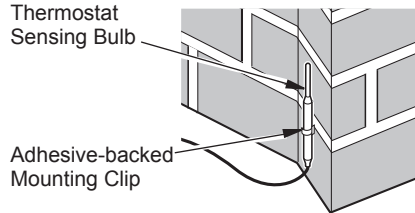
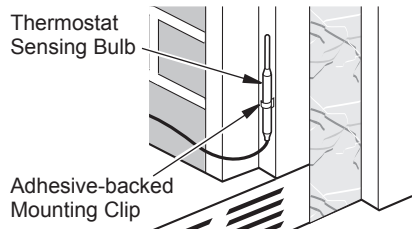
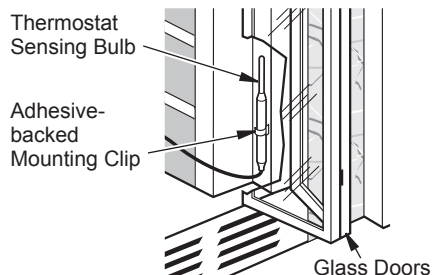

Figure 37 - Locating Thermostat Sensing Bulb on Masonry Fireplace
Figure 38 - Locating Thermostat Sensing Bulb on Factory-built Metal Fireplace
Figure 39 - Installing Thermostat Sensing Bulb behind Glass Doors
3. The thermostat sensing bulb may be located to the lower right front side of fireplace. Determine location of sensing bulb, but do not mount sensing bulb until step 4. If you have a masonry fireplace, see Figure 37 for location. If you have a factory-built metal fireplace, see Figure 38 for location. If your fireplace has glass doors, position sensing bulb directly behind door gap on right bottom side (see Figure 39).